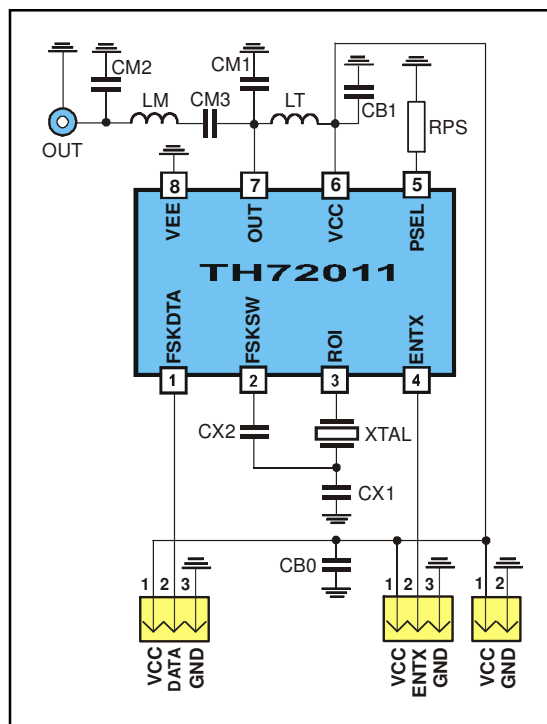

Fig. 18: Test circuit for FSK with 50 Ω matching network
typical values at $T_A = 23\text{ }^{\circ}\text{C}$ and $V_{CC} = 3\text{ V}$; test circuit shown in Fig. 18, $f_c = 433.92\text{ MHz}$
- Data according to test circuit in Fig. 18
6.1 Test circuit component list to Fig. 18